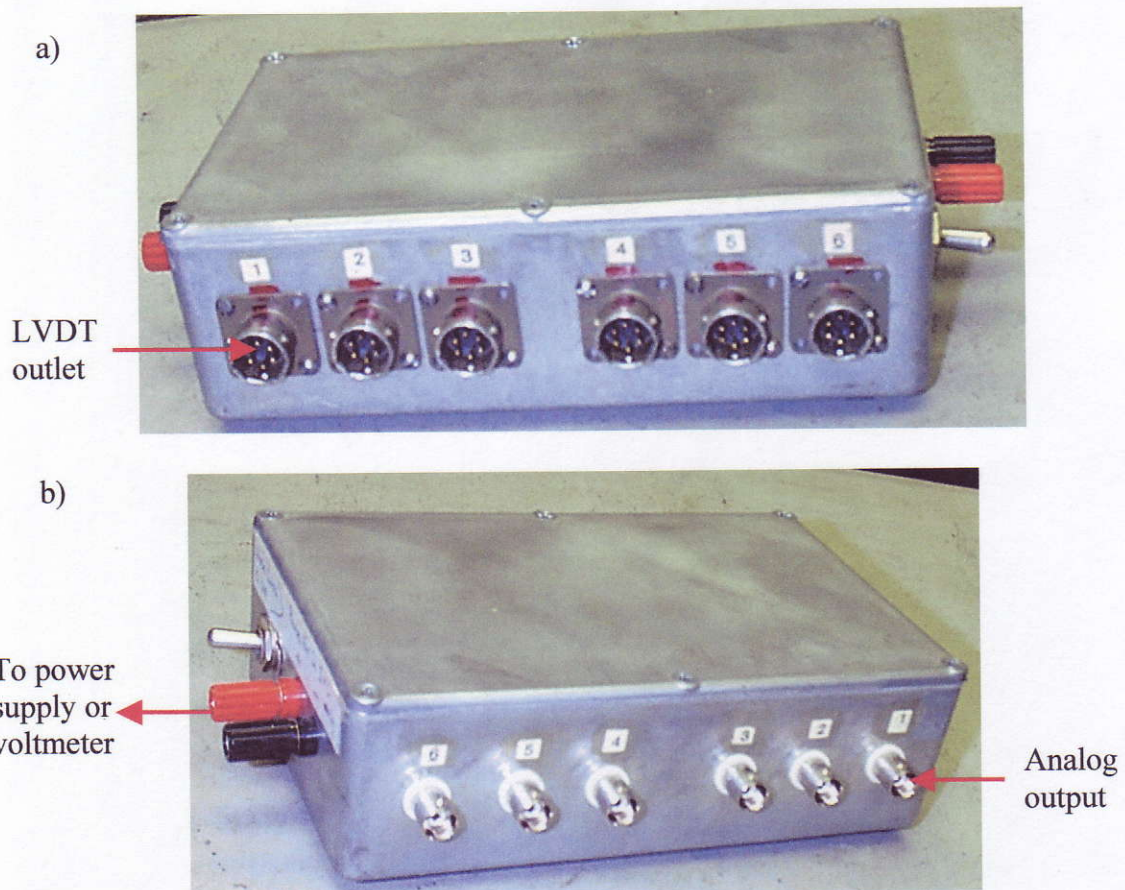

Fig. 10 Transition box: a) Front view, b) Rear view.
2. Adjust the output DC voltage (excitation voltage) from the power supply to the value specified by the LVDT manufacturer; usually it is between 6 V and 30 V. Connect the output from DC power supply to the transition box shown in Figure 10. Make sure that the polarity is correct; minus goes to minus and plus goes to plus. If the polarity is reversed, the output from LVDT will be close to zero.